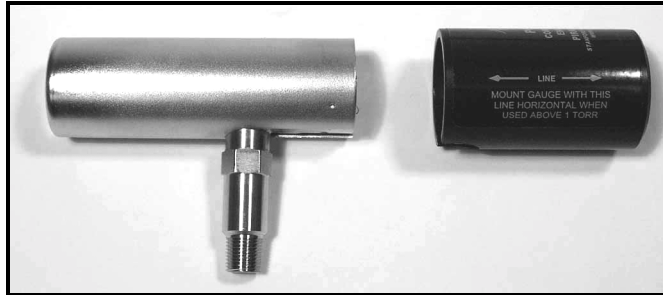

Figure 9-1. Side view of the PG105 gauge tube with the detachable plastic connector disconnected.
1. Disconnect the gauge from the O105C4 cable and from the vacuum system port. Disconnect the detachable plastic connector from the back of the gauge tube and store it in a safe and clean place. See Figure 9-1.